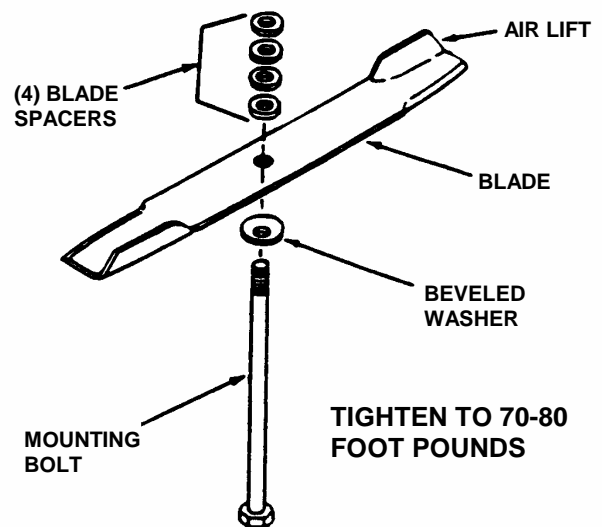

FIGURE 3.2
5. Check torque of blade mounting bolts. As necessary, torque to 70 to 80 ft. lbs. See Figure 3.2.